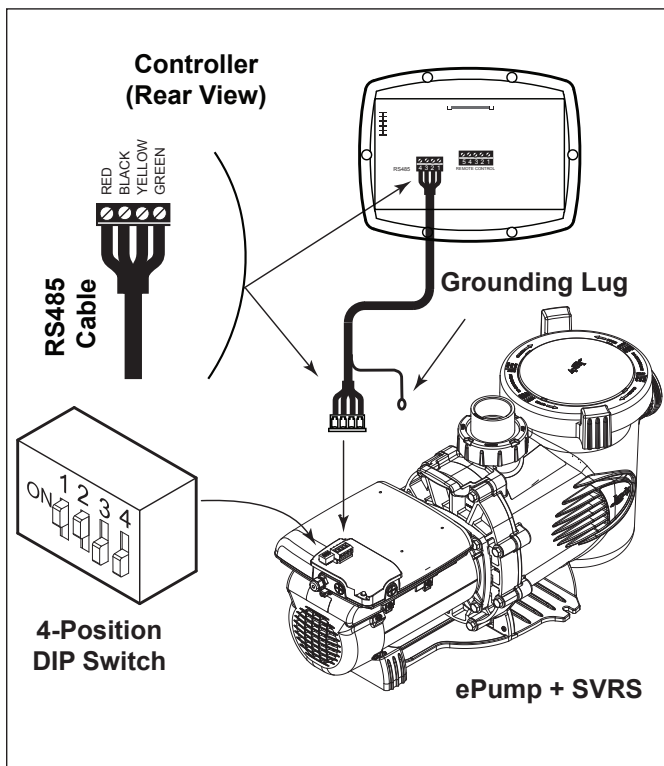

Figure 4. Wiring ePump + SVRS Controller (JEP-R) to ePump
4. Attach the four (4) wires in the RS-485 cable to the RS-485 connector. Match the wire colors with the positions on the connector: 1- red, 2- black, 3- yellow, and 4- green. See Figure 4.
6. Slide dip switches 1 and 2 up, so they are in the ON position, and slide switches 3 and 4 down, so they are in the OFF position. See Figures 4.
As shown in Figures 4 and 5, the 4-position dip switch is located at the rear of the ePump + SVRS. This dip switch serves two (2) functions: it selects the pump address, and it determines what type of controller will be used with the pump. The tables below show the dip switch settings.